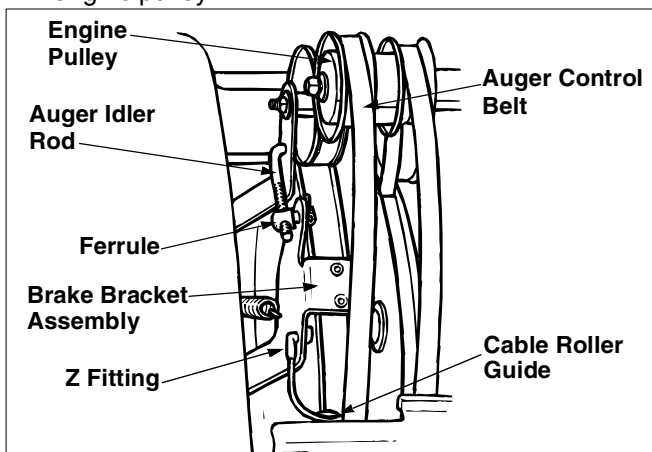

Figure 19
- Remove the cotter pin and washer from the ferrule in order to disconnect the auger idler rod from the brake bracket assembly. See Figure 19.
- Attach the “Z” fitting of the cable into the brake bracket assembly. Refer to Figure 19.